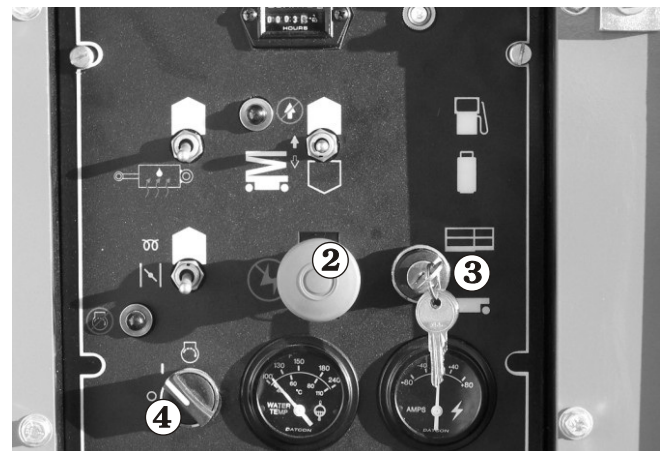

Figure 8.16
2. Set the **Emergency Stop** switch ② to on (up) (see Figure 8.16).
3. Set the **Ground/Platform Selector** switch ③ to platform (up) (see Figure 8.16).
4. Turn the key ④ (see Figure 8.16) to on do not turn the key ④ to start.